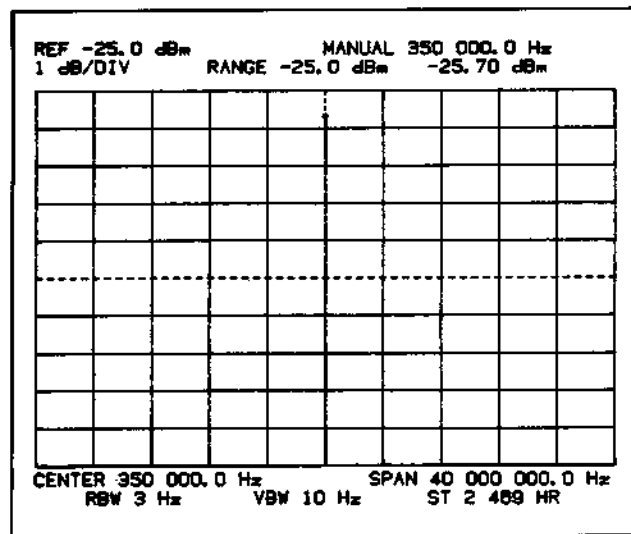

Figure 5-25. IF Adjustment Display #1
h. Adjust A19C39 for a maximum marker amplitude reading. Adjust the REF LEVEL as necessary to keep the marker within the graticule area. (See Figure 5-25.)